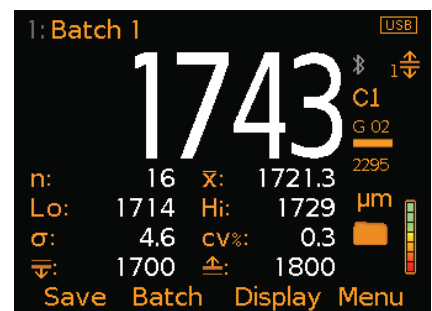

Figure 7: Selected Statistics & Readings (Model T)
- **Selected Statistics - Model T (Figure 7)**; Up to 8 statistical values can be displayed as defined by the user via Display/Statistics/Select Statistics.